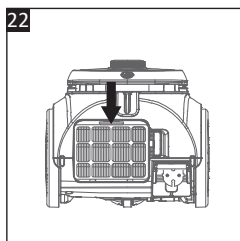

Fig. 22
3. Press down the tab on the top of the air outlet filter (24) to remove it from the vacuum cleaner (**Fig. 22**).